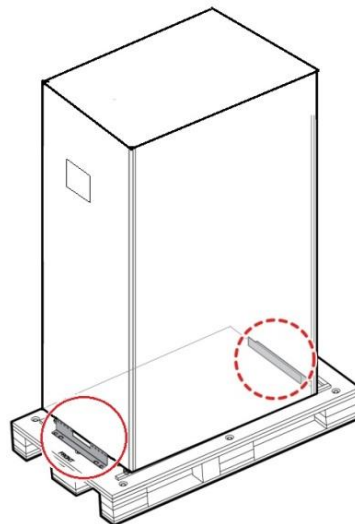

Fig. 3-2 Removal of L-shaped angle support
**Step 6:** After confirming that the equipment is in good condition, remove the L-shaped angle support fixed by pallet for fixing the case, as shown in Fig. 3-2.